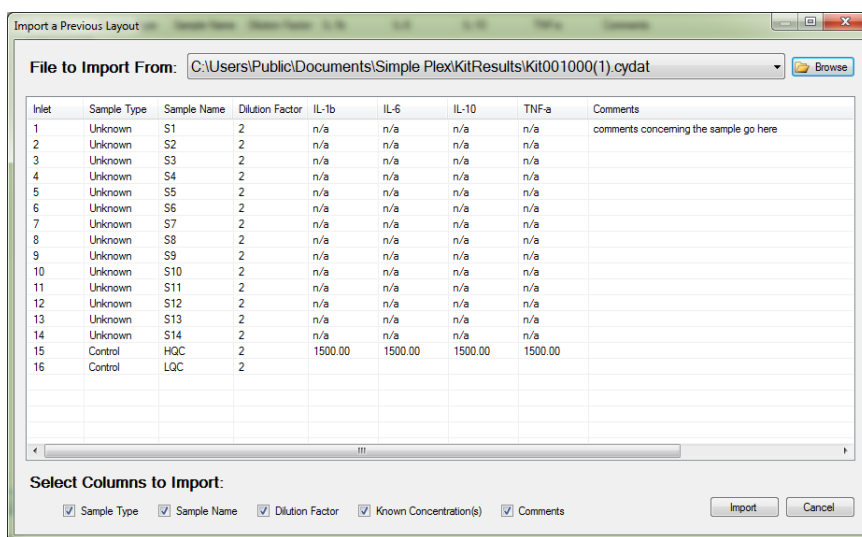

Figure 3-20: Import a Previous Layout screen.
- **If your inlet assignments are similar to a previously run Kit:** You can click **Import** and **From Previous Kit Results File**. Then select the previously run CYDAT file, and specify only the particular columns of the previous layout you want to use for the present one by utilizing the check boxes as shown in Figure 3-20.